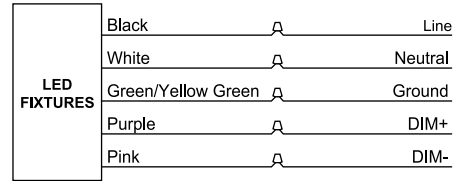

Fig. 7
1. Install photocell and wire as per diagram. (Fig. 7)